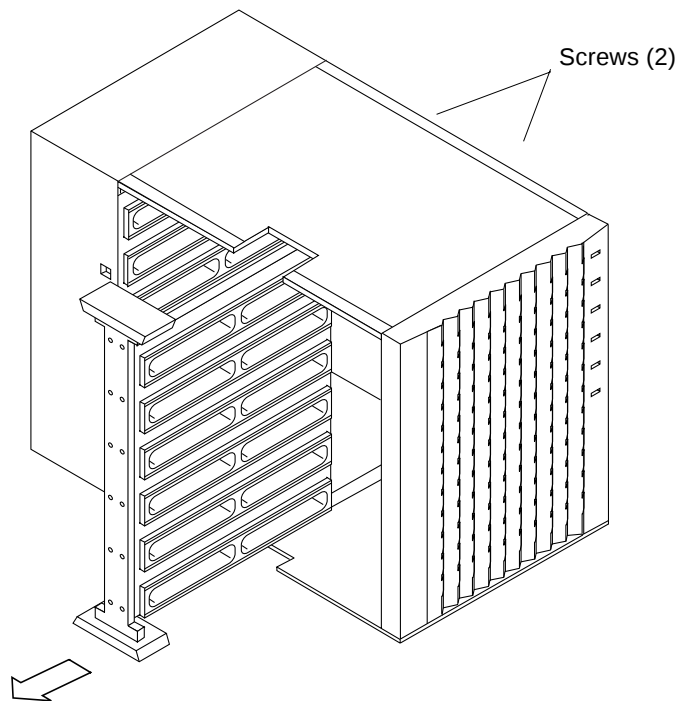

FIGURE 6-5 Removing the Partition
- 10. Remove the two screws on the right side of the unit that connect the partition between the drives to the backplane and chassis (FIGURE 6-5).**
11. Slide the partition out of the unit (FIGURE 6-5).
3. **Slide the partition all the way back into the slot so that it rests against the backplane (FIGURE 6-5).**
- 4. Insert and secure the two screws on the right side of the unit that secure the partition to the backplane and chassis (FIGURE 6-5).**